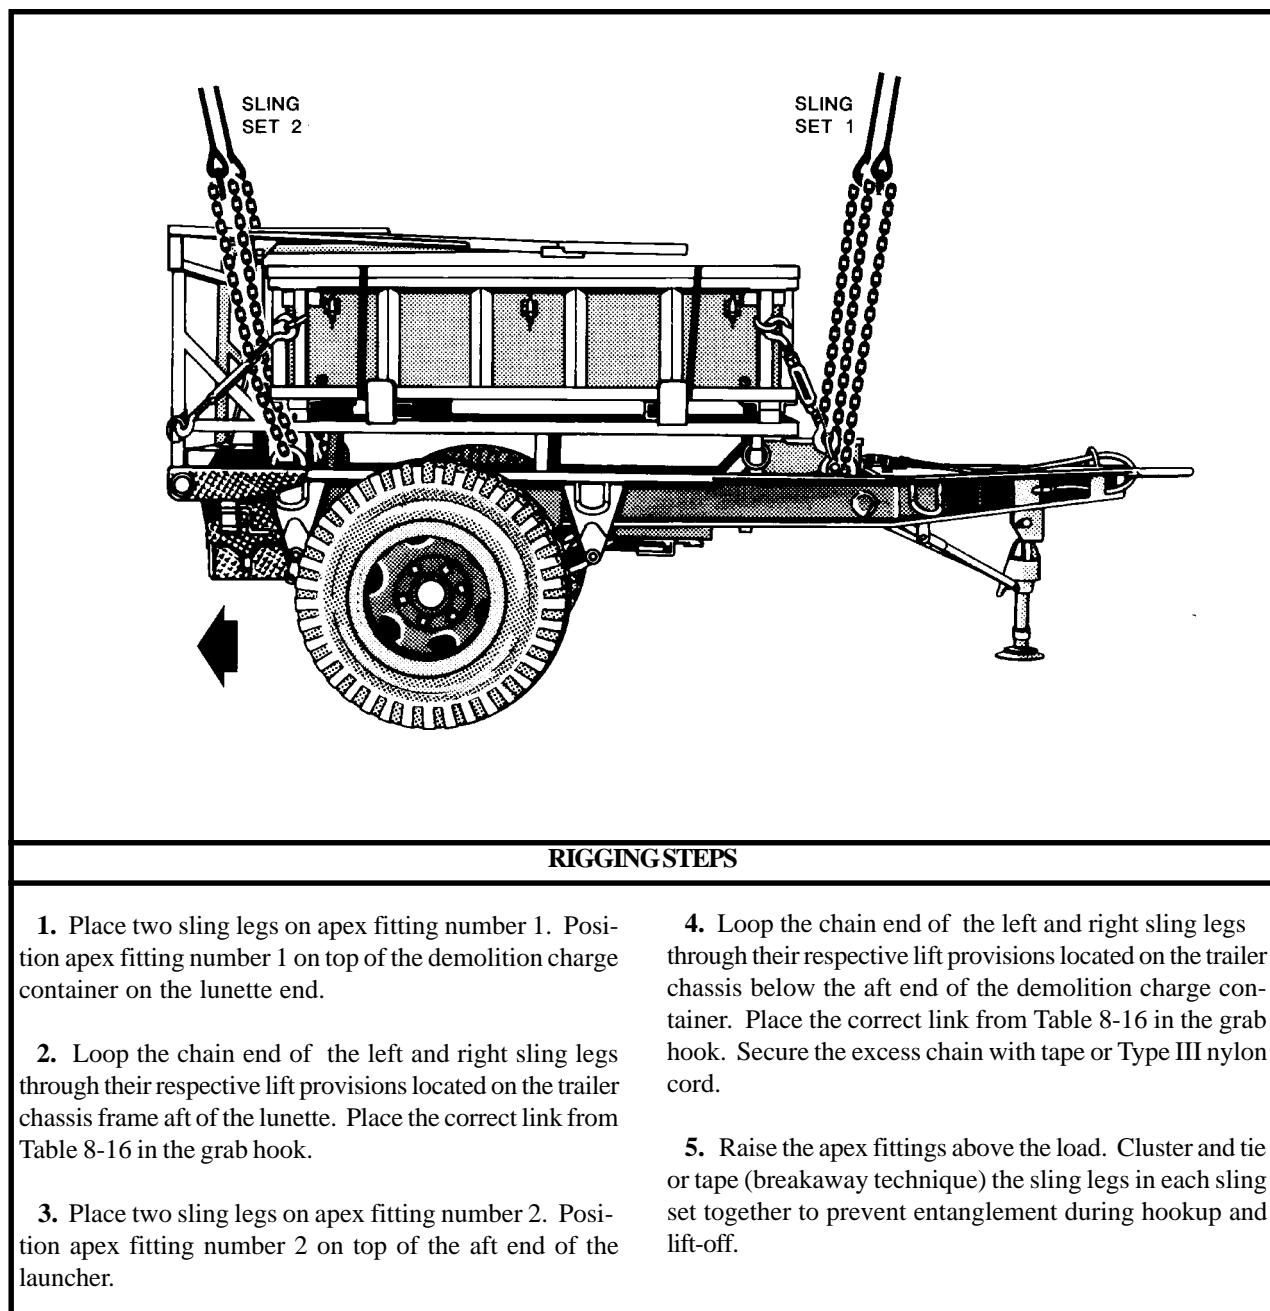

Figure 8-16. Mine Clearing Line Charge Mounted on M200A1 Trailer
(2) Rigging. Rig the load according to the steps in Figure 8-16.
(3) Hookup. Two hookup teams are required for this load. The static discharge person discharges the static electricity. The forward hookup person stands on the demolition box and places apex fitting 2 onto the forward cargo hook. The aft hookup person stands on the demolition box (lunette end) and places apex fitting 1 onto the aft cargo hook. The hookup teams then carefully dismount the load and remain close to the load as the helicopter removes slack from the sling legs. When successful hookup is assured, the hookup teams quickly exit the area underneath the helicopter to the designated rendezvous point.
(4) Derigging. Derigging is the reverse of the preparation and rigging procedures in steps d (1) and d (2).